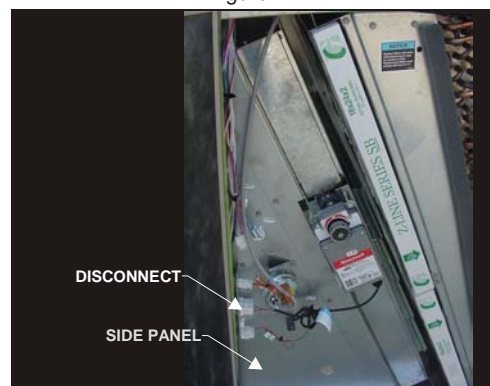

Figure 3
5. Disconnect plug P3 from connector J3. See Figure 3.
9. Open filter access door and slide in balancing damper on economizer rails. Put balancing damper in place with the damper blade at the bottom. Balancing damper mounts in place of the economizer shown in **Figure 3**. After assembly is in place attach the LD shield to the side panel, thus securing the balancing damper from sliding out of position. Loosen wing nut on adjustable quadrant, rotate arm to set blades to 50% open and retighten wing nut. **See Figure 6**.